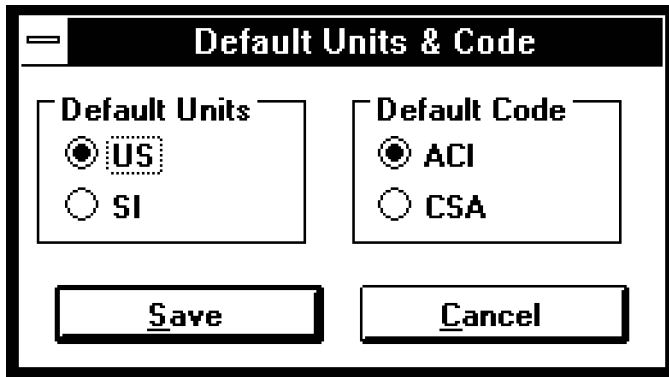

Figure 4-32—The Default Units & Code dialog box
- From the **Options** menu, select **Default Units & Code**. The dialog box of Figure 4-32 appears.